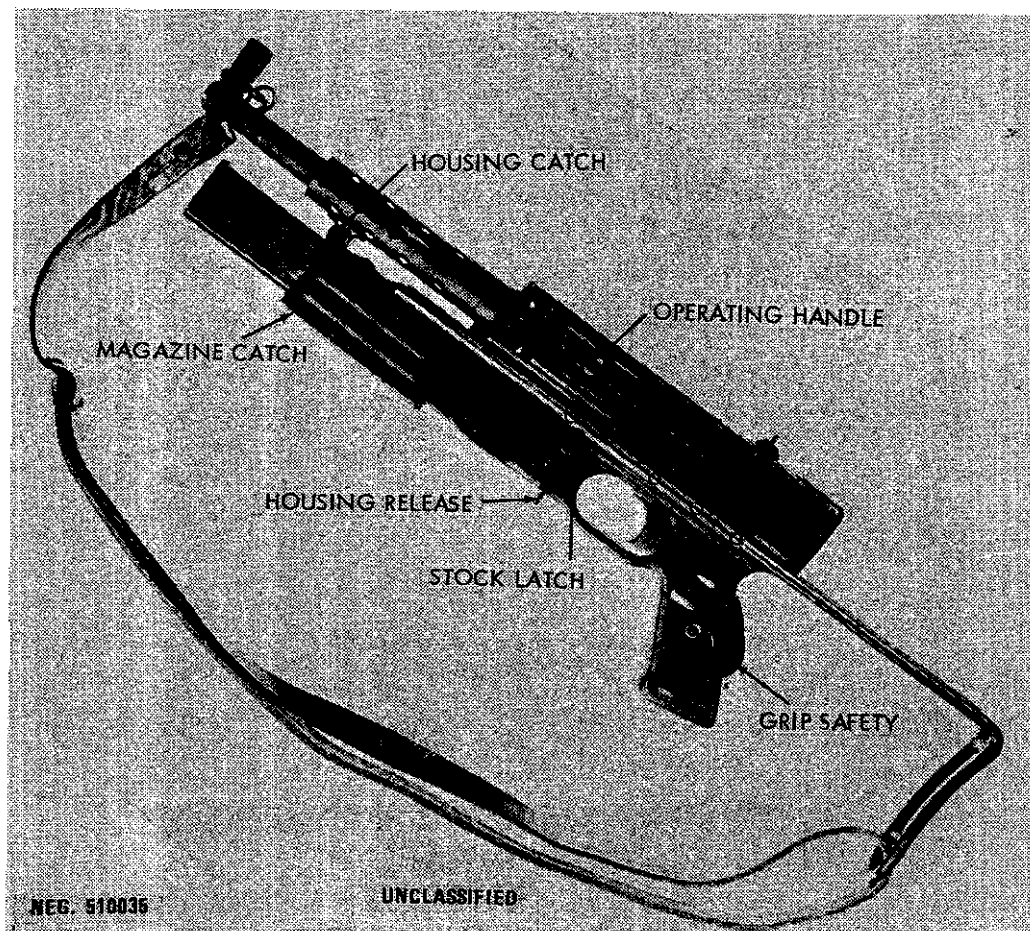

Figure 36. French M.A.T. 49 submachinegun.
a. The French 9-mm M.A.T. Model 1949 submachinegun (fig 36) is standard in the French Army and in many of the armies of former French colonies. These guns are also used by the Viet Cong and other guerrilla forces in Asia and Africa.
b. If the magazine housing is folded forward, press the housing catch (fig 36) and swing the magazine housing down until it is vertical and until the release located on the underside of the trigger housing (fig 36) engages the magazine housing. Insert the loaded magazine into the housing until it is caught by the magazine catch. Depress the grip safety and pull the operating handle (fig 36) to the rear; then push the handle back to its forward position. CAUTION: The gun is now ready to fire.
d. There is no manual safety, as such, on this weapon, but the magazine and its housing can be swung forward under the barrel (fig 36). This action, which is the only manual safety feature, also renders the gun more compact. Press the release under the trigger housing and swing the housing and magazine forward until the housing catch locks to the bracket under the barrel jacket. The magazine and housing must be swung into position before firing (para b above).
e. Press the stock latch (fig 36) and slide the stock to either the opened or closed position.
g. Remove the magazine by depressing the magazine catch (fig 36) and pulling the magazine straight out of the magazine housing.